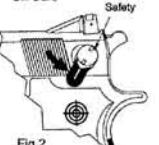

Fig. 2
- Rotate the safety lever counter-clockwise to the lower position until it stops, covering the RED indicator. (Fig. 2) The safety is not on unless the safety lever is moved all the way to the lower position and the red indicator is not showing. The air pistol will not fire when "on safe".